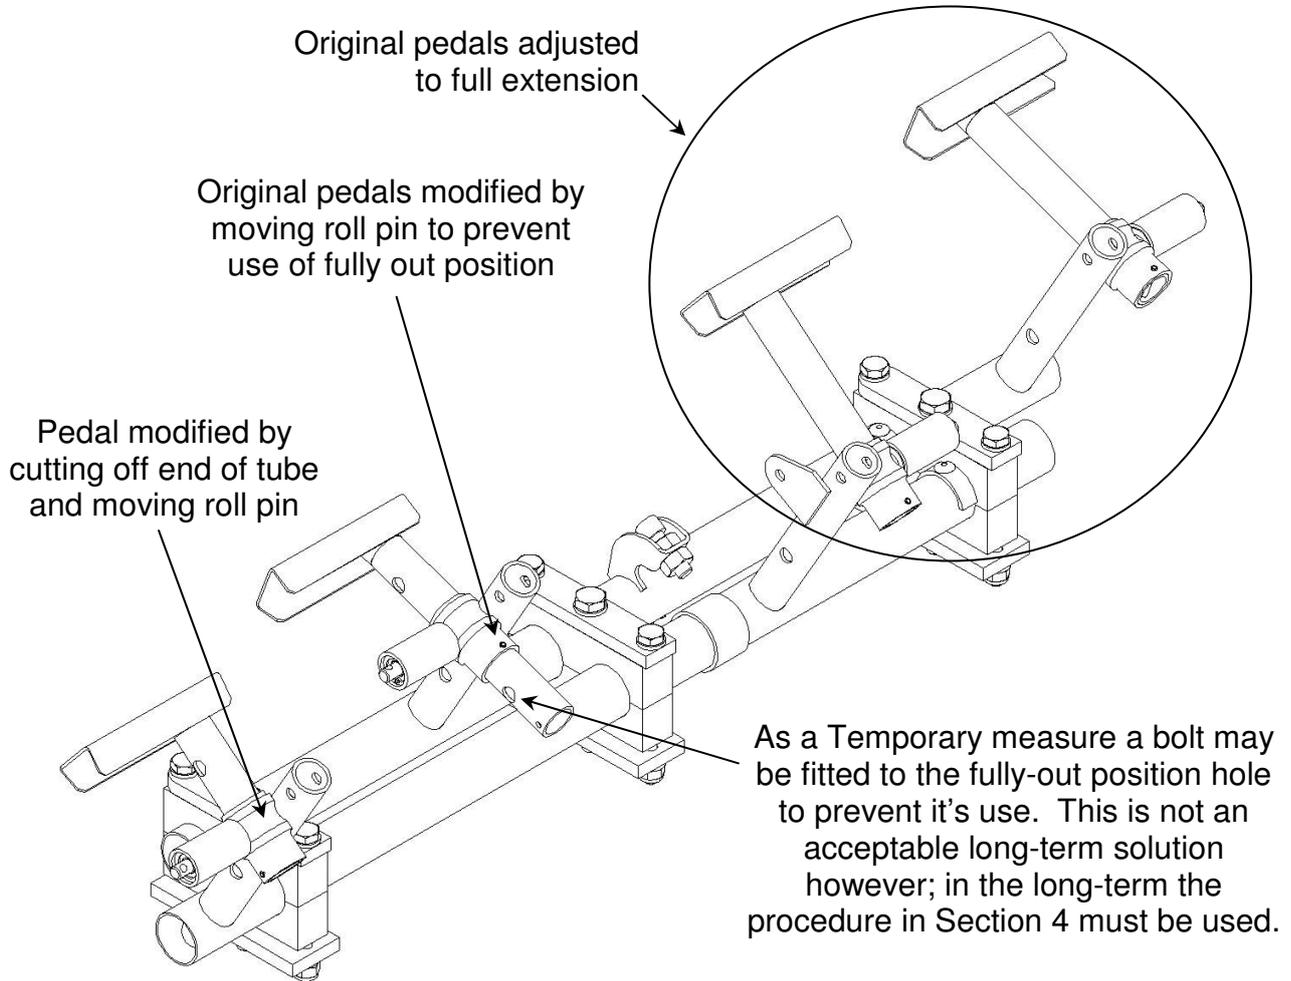

Figure 2 – Pedal Assembly Detail
- Fit a bolt to the fully-out position hole on the adjustable pedal to prevent it's use. Figure 2 refers.